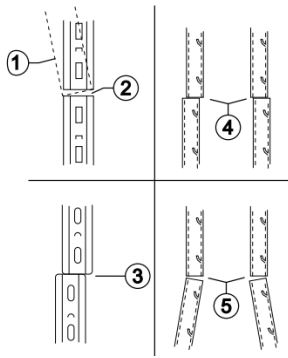
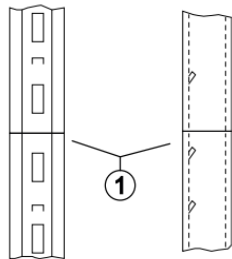

Figure 19 Improper Alignment and Abutment of Adjacent Rail Sections
Figure 20 Proper Alignment and Abutment of Adjacent Rail Sections
When attaching a rung (alligator) clamp, hold the rail against the front of ladder rungs and align the clamp on the back of the rung with teeth engaging the rung. See Figure 3 Insert bolts through the rail slots and rung clamp holes. Secure with lock washers and nuts. Before tightening nuts, shift the rail into correct alignment with the adjacent rail. See Figures 19 and 20.
The second rung clamp is secured in the same way. A final check is made to assure the butt joint between rails is tight and that the rail alignment is correct. See Figures 19 and 20. Then torque all nuts in accordance with torque limits in Section 4.6 Torque Range for Tightening Nuts.
After finishing assembly of the rail in accordance with the above, make a final check as follows. Take a bearing on the vertical alignment of all rail sections. If the alignment is not straight, adjustment must be made. All abutments of rail sections must be tight. See Figure 19 and 20. If there is misalignment or gaps between rail sections the fall arrester will not run smoothly and excessive wear of the fall arrester will result. If one rail section is moved downward to close a gap, all rail sections above it must also be moved accordingly. All bolts/ nuts must be checked for tightness to the torque ranges in Section 4.6 Torque Range for Tightening Nuts. Be sure the lock washers are in place. Pass the fall arrester over the entire rail string to be sure it travels smoothly. In particular, check to be sure it passes the joints of rail sections without hanging up. Be sure all rail sections have the notch opening up. Otherwise the fall arrester will not stop a fall. At each rail section, pull downwards suddenly on the fall arrester to ensure that it locks on a notch on the rail.
2. Check tightness and alignment of butt joints between rail sections. See Figure 19 and Figure 20. Make the necessary adjustment. This may necessitate adjusting several rail sections after the first joint is corrected. Be sure alignment of rails is preserved.